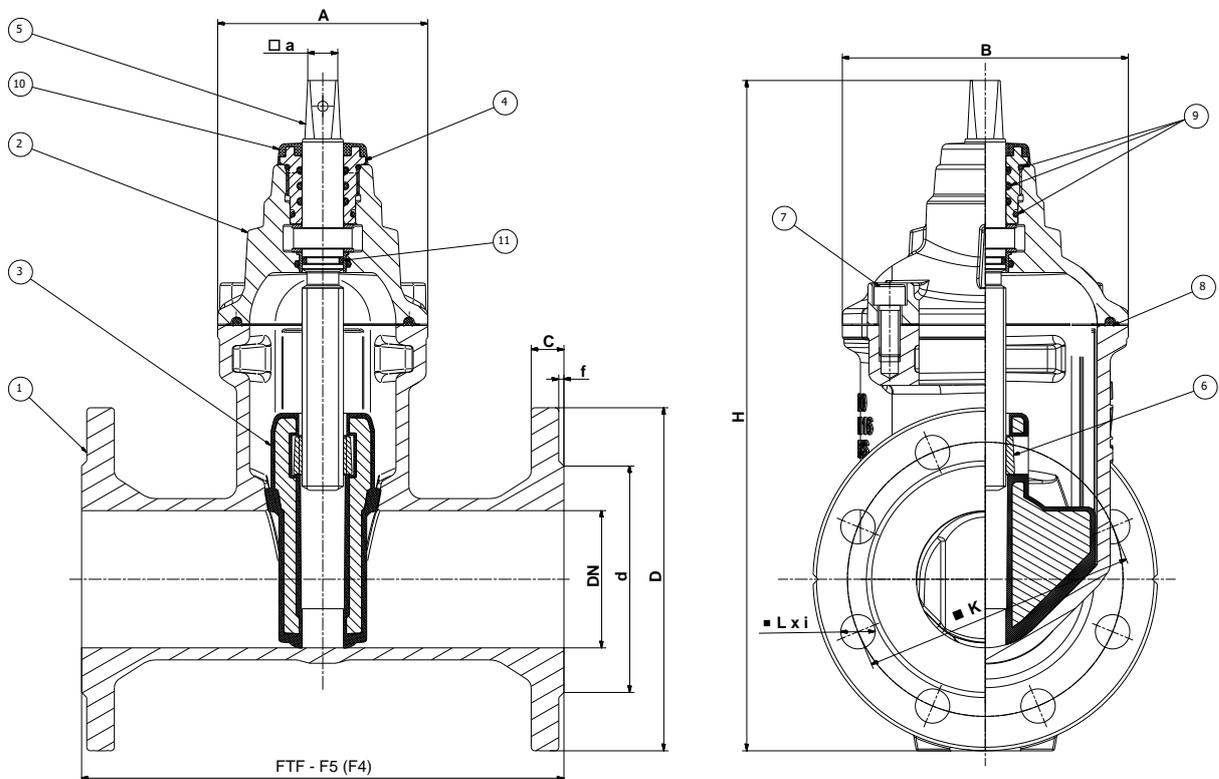

Figure 1: Gate valve cross-sectional drawing
1.3. Construction and principle of operation (Fig.1, Tab.2)
The main parts of the gate valve are shown in Fig.1.